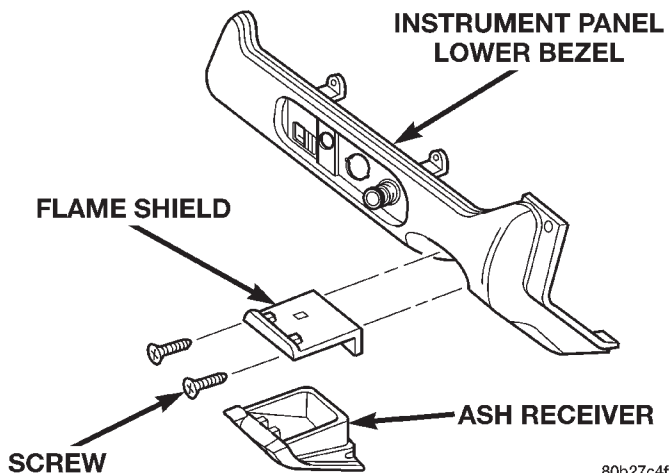

Fig. 17 Ash Receiver Remove/Install
(1) Disconnect and isolate the battery negative cable.
(2) Open the ash receiver. Depress the spring retainer in the center of the ash receiver to release it, then lift the ash receiver slightly and pull it out from the pivot pins in the instrument panel lower bezel.
(3) Remove the two screws that secure the flame shield to the instrument panel lower bezel (Fig. 17).
(4) Pull the flame shield out from the instrument panel lower bezel far enough to disengage the two retaining tabs on the top, then lower the shield far enough to access the ash receiver lamp and hood.
(5) Squeeze the ash receiver lamp and hood bracket to remove the unit from the mounting hole in the flame shield.
(6) Remove the flame shield from the instrument panel lower bezel.
(7) Reverse the removal procedures to install. Tighten the mounting screws to 2.2 N·m (20 in. lbs.).